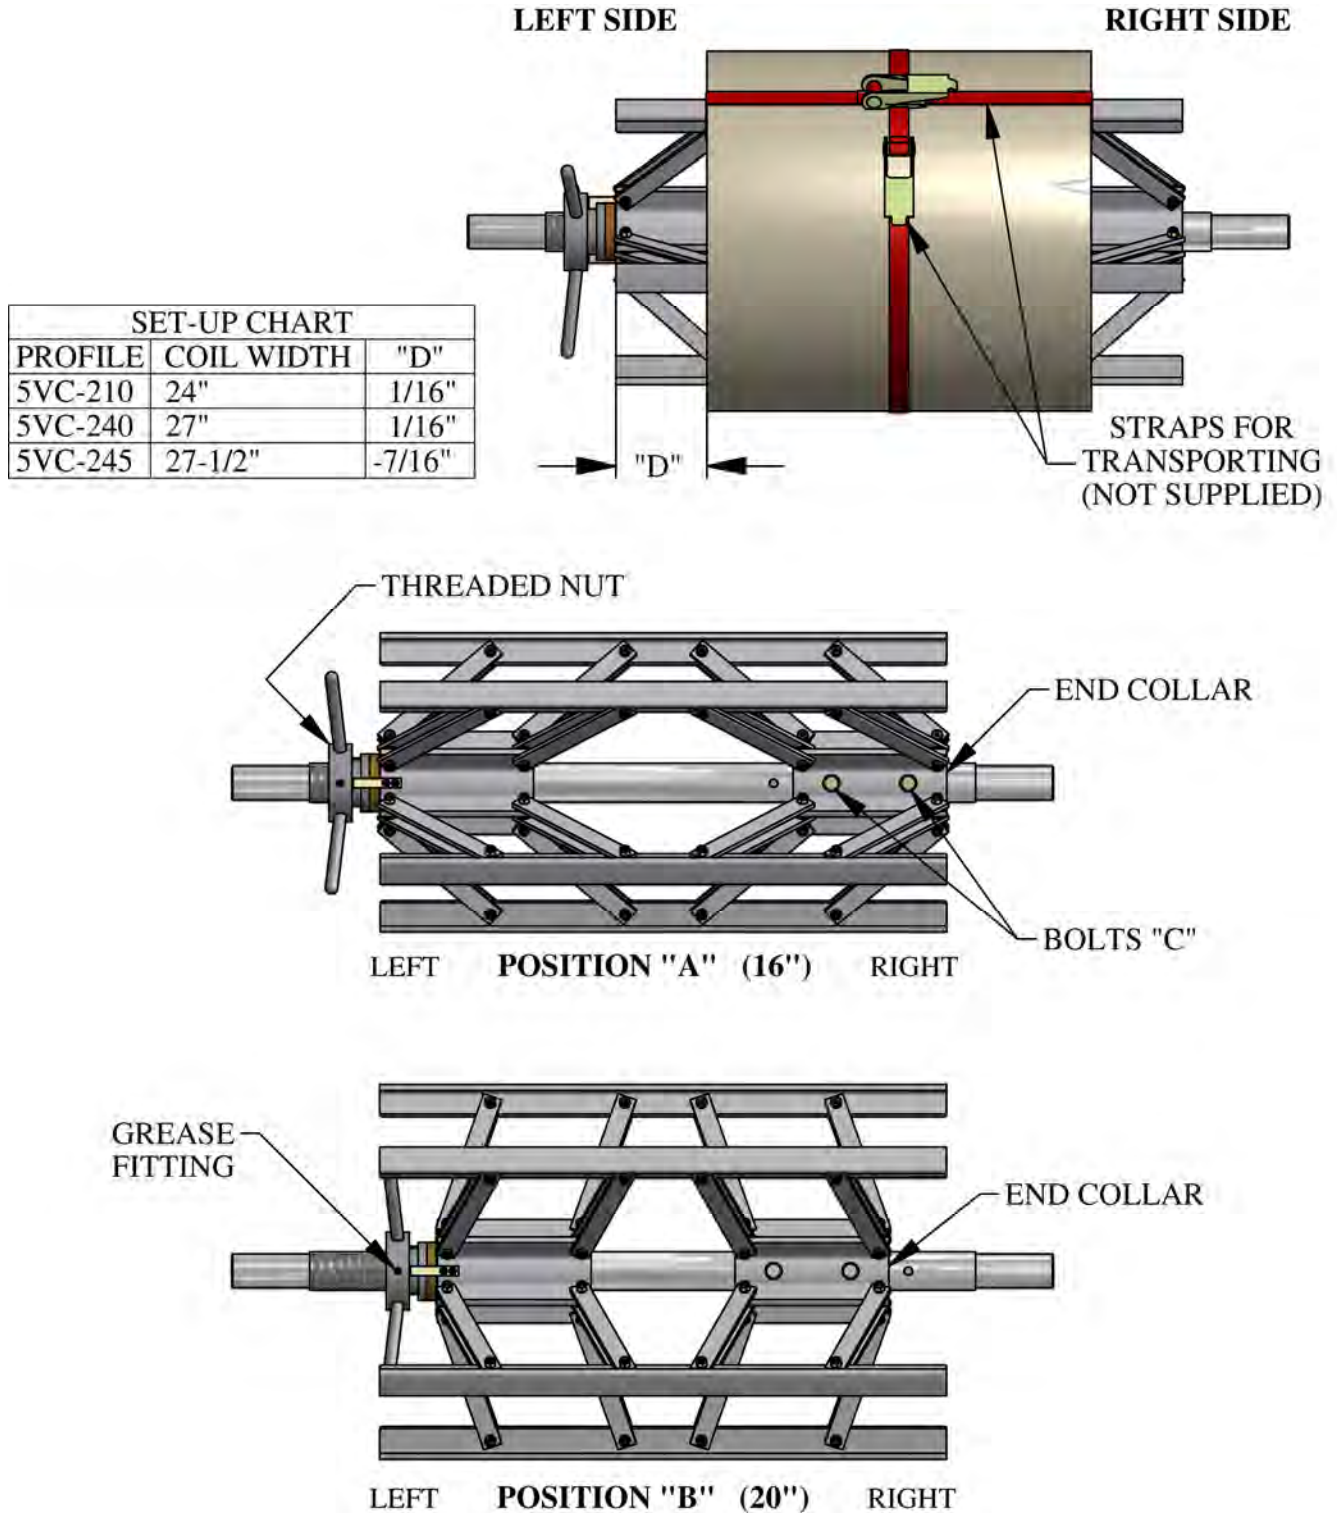

Figure 9: Expandable Arbor Set-Up
(Figure 9)
4. Using the Reel Set Up Chart, (Figure 9), find the “D” dimension that corresponds to the profile being used.
5. Before transporting the loaded Expandable Arbor, the coil should be secured around the outside edges through the inside diameter using a strap, rope, etc. to prevent the coil from telescoping (Figure 9).